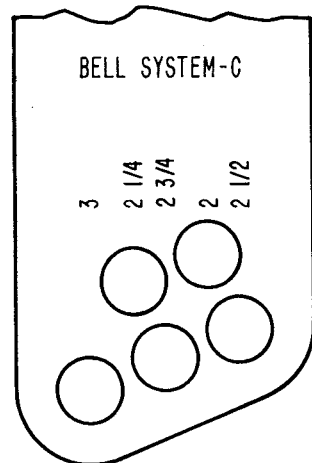

Fig. 2 — Angle Insert Adjustment for C Cable Guide
2.02 Adjustment of the angle insert is by means of two bolts, each of which may be inserted in one of five holes arranged as in Fig. 2. One set of holes is located at the rear of the guide beneath the clevis and the other set is located at the front on the upper part of the shoe. The dimensions stamped opposite the holes at the rear of the guide indicate the maximum size cable which the guide will accommodate for each setting.